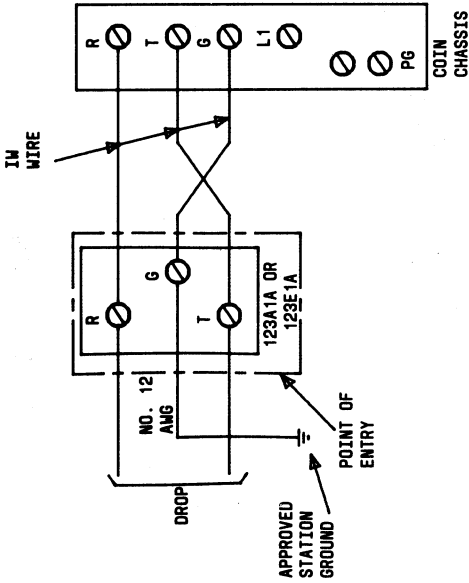

FIG. 2 - Protector Wiring When Protector is Outside Set
- [2] Refer to FIG. 2 and NOTE 4, Page 3, for connections when protector is outside set